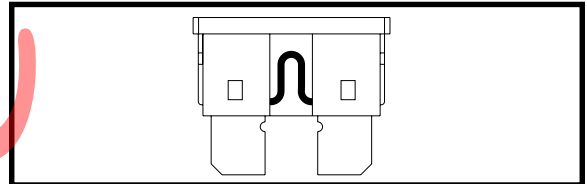

Figure 25. Working Fuse
- Examine the fuse to be sure it is blown. See figures 25 and 26.